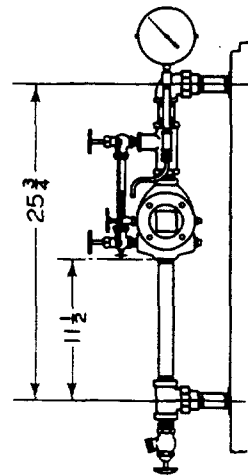
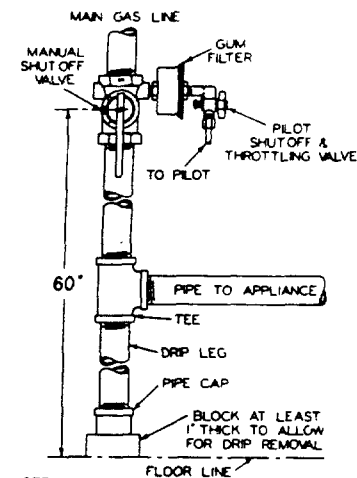
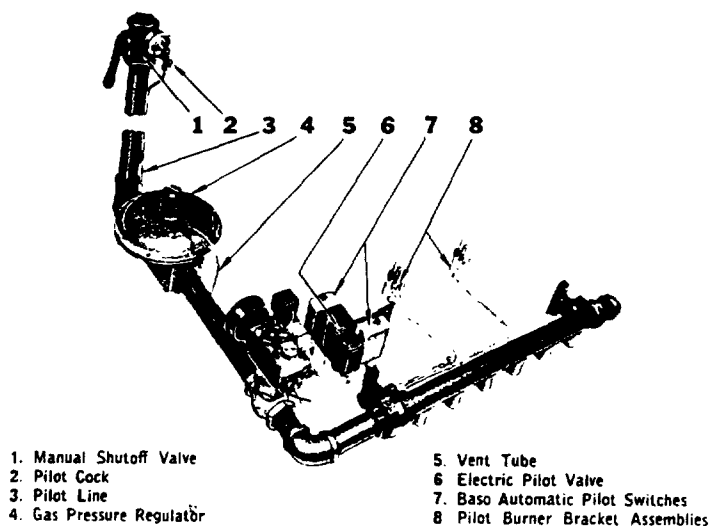

FIG. 10—Low Water Cutoff
FIG. 15—Supply Piping Manual Ignition
FIG. 21—Control Connections
1. Assemble low water cutoff and water column piping as shown in Fig. 10 and attach to boiler as shown in Fig. 9. Assemble the working mechanism to the low water cutoff with gasket and screws (furnished in separate package). Make steam gage connection with nipple and tee to $\frac{1}{4}$ " tapping on upper part of low water cutoff. Connect steam control element on automatic gas valve with steam gage tee using copper tubing and connectors. Fill tubing with water and screw steam gage into tee.
1. Connect pilot line from manual shutoff valve, Fig. 15, to union in line to pilot burner. See Fig. 10.
1. Connect pilot line from manual shutoff valve assembly, see Fig. 15, to electric pilot valve. Then connect pilot line from electric pilot valve to pilot burners. Attach bracket containing electric pilot valve and BASO 850 switches to burner access door frame with one 10-24 x $\frac{1}{2}$ screw and one $\frac{3}{8}$ -16 x 1" brass hex head cap screw which holds burner access door frame in place. See Fig. 21.